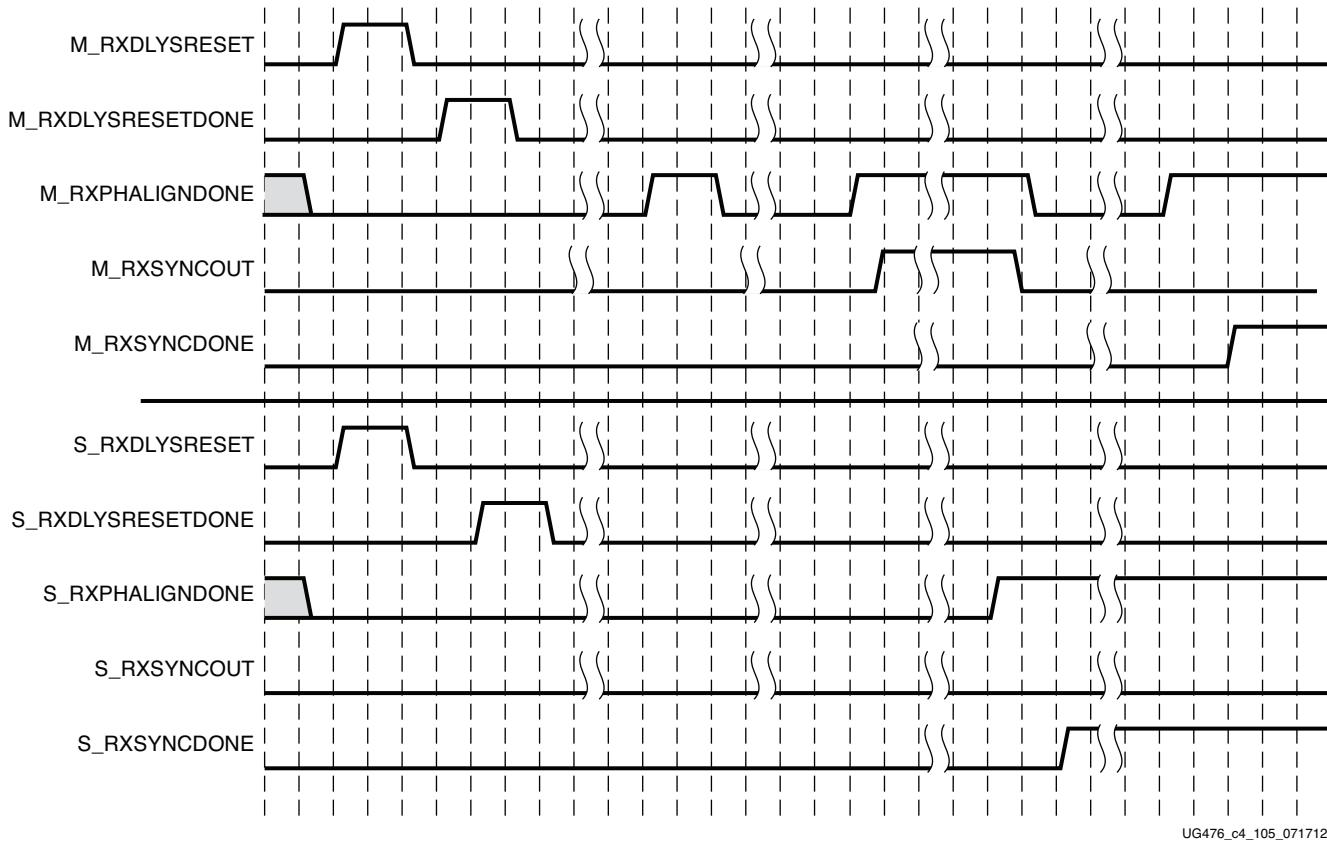

Figure 4-47: RX Buffer Bypass Example—Multi-Lane Auto Mode (GTH Transceiver Only)
Figure 4-47 shows the required steps to perform auto RX phase and delay alignment.
Notes relevant to Figure 4-47:
1. The sequence of events shown in Figure 4-47 is not drawn to scale.